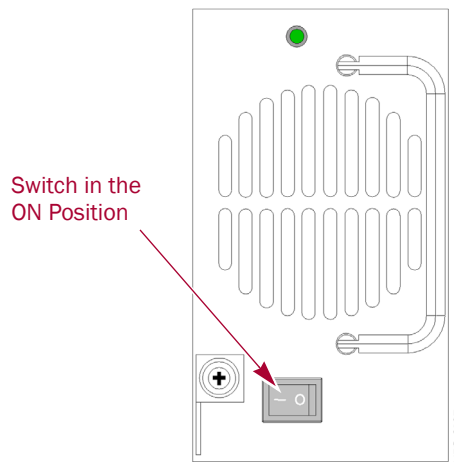

Figure 2-3: Power Supply Power ON/OFF Switch ON Position
- b. Set each power supply's ON/OFF switch to the ON position ("I") (see Figure 2-3).